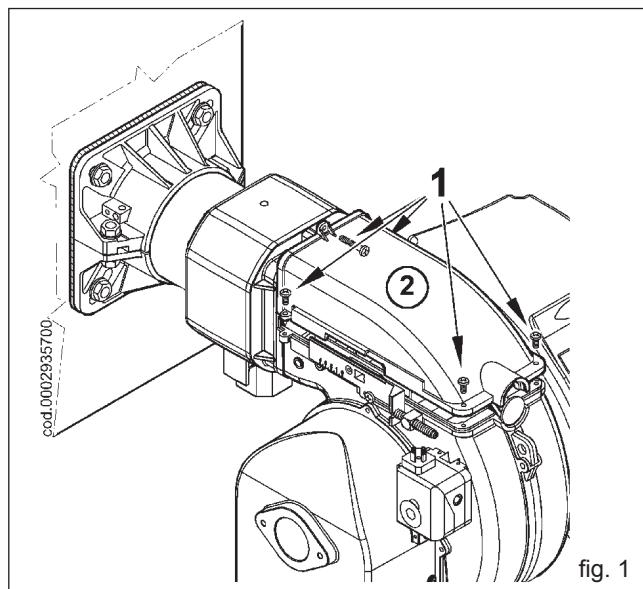

fig. 1
- 1) Loosen the screws 1 and remove the lid 2 (figure 1).
- 1) Following the instructions detailed in the "Maintenance" paragraph, extract the mixer assembly and remove the screw (1) which connect the unit's forward movement rod (2) to the gas delivery pipe (3).
- (3) Remove the screw (5) which connects the gas mixer (6) to the pipe (figure 1).
- 2) Turn the bend coupling through 180° (4) and the mixer (6), in such a way that the inlet gas is turned upwards (figure 1). Again fix the mixer and the unit's forward movement rod to the gas delivery pipe.